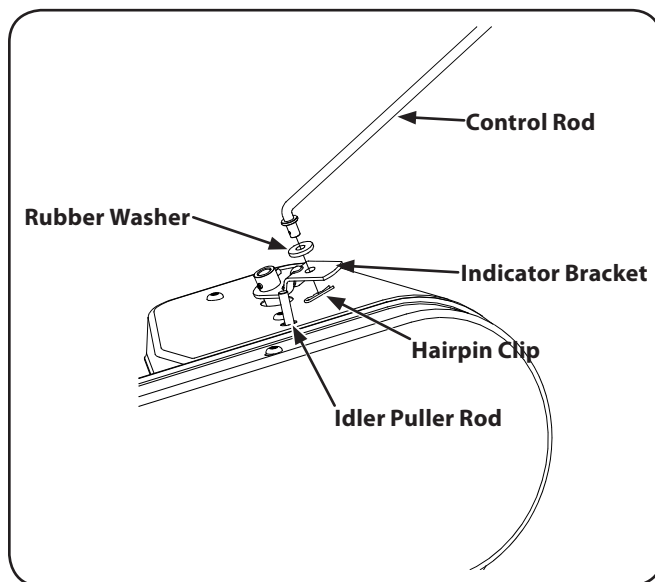

Figure 3-5
3. Insert the shorter, (angled), end of the control rod through the indicator bracket on the shift cover and secure with the hairpin clip that was previously removed. See Fig. 3-5.